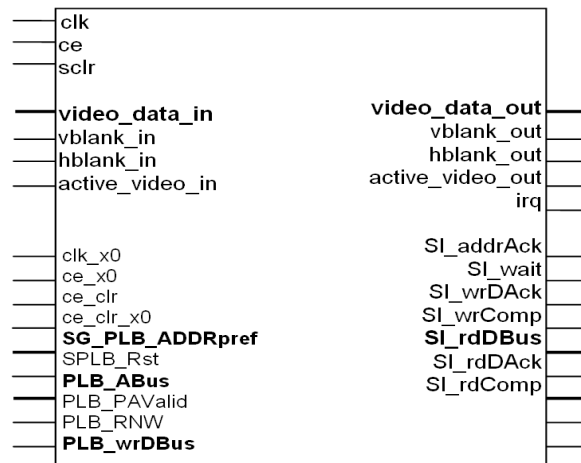

Figure 12: Core Pinout for the EDK Processor Interface
The information in Table 9 and Figure 12 provides guidelines for the resource utilization of the Color Filter Array Interpolation core for typical Standard Definition (SD) and High Definition (HD) sensors with 8, 10, and 12-bit input resolutions for Spartan®-3A DSP, Spartan-6, Virtex®-5, and Virtex-6 FPGA families. This core does not use any dedicated I/O or CLK resources. The design was tested using Xilinx ISE® v12.4 tools with default tool options for characterization data.